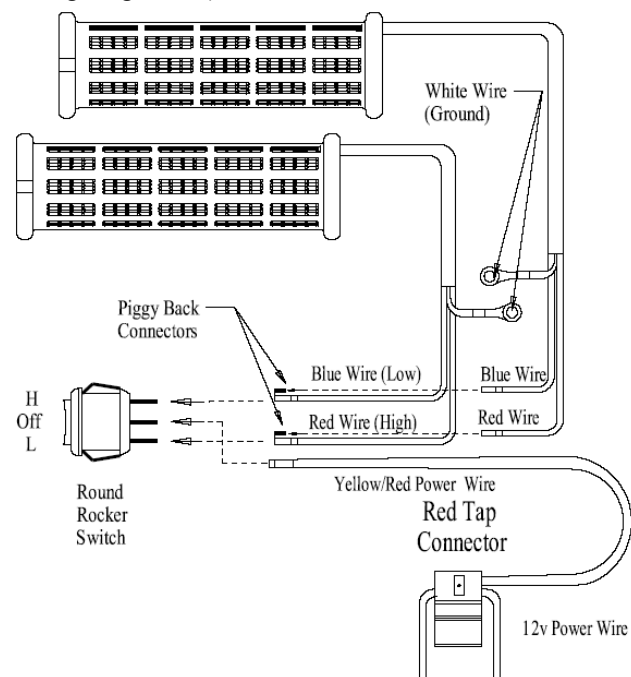

Figure 1. Connector guide & switch connections
12. Attach female slip-on connectors, piggyback connectors and ring terminals as shown in Figure 1. A crimping tool works best or pliers will work using a double crimp approach (top crimp first and then a side crimp). For Ground connection (white wires) use a frame component or a Ground wire, not a rubber isolated component such as a handlebar or steering assembly.
13. Connect heated grip wired to the switch according to Figure 1, align the switch as you want to read it and insert it into hole drilled in step #10.
14. Locate a voltage controlled power wire (such as one leading to a headlight, taillight, or aux power outlet). Using the red tap connector, place this power wire into the continuous channel. Insert the yellow or red wire (do not strip insulation) into the adjacent channel. Using pliers, press the metal contact flush with top of connector. Close the hinged cover until latched. See **Figure 1** for connection to switch. **Note:** For added protection, install a 4- or 5-amp fuse (not included) between the tap connector and the switch.